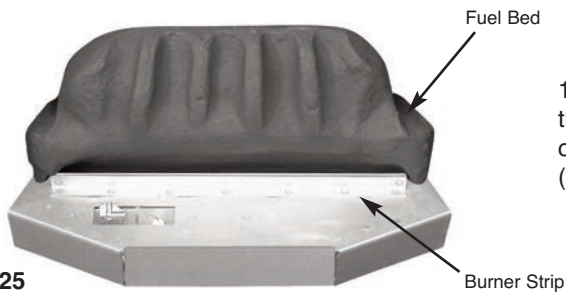

Fig. 25
1. Place the main fuel bed on to the middle section of the metal burner tray. It is important that the front edge of the fuel bed is located behind the burner strip (Fig. 25).